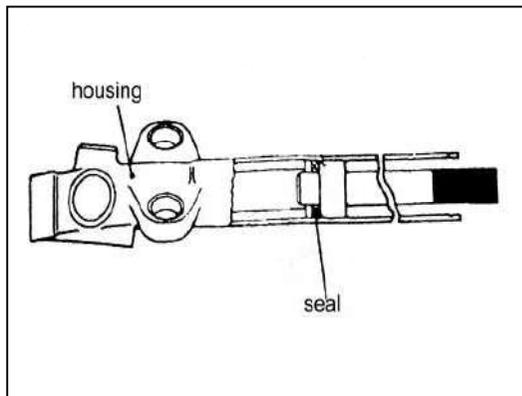

Fig 17-33
1) OIL SEAL INSTALLATION(See fig 17-33)